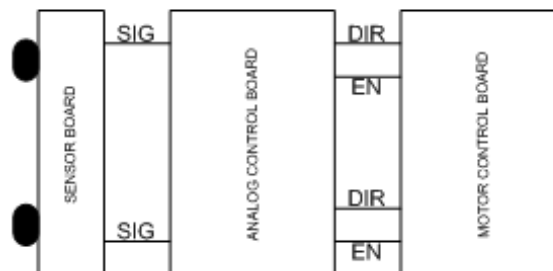

Figure 5.7: The Complete System
2. Assemble the system as shown in Figure 5.7. To connect power to the boards, and signals between the boards, use pieces of CAT-5 cable available in the kits or at the front of the Lab. (This cable fits nicely into the female headers).